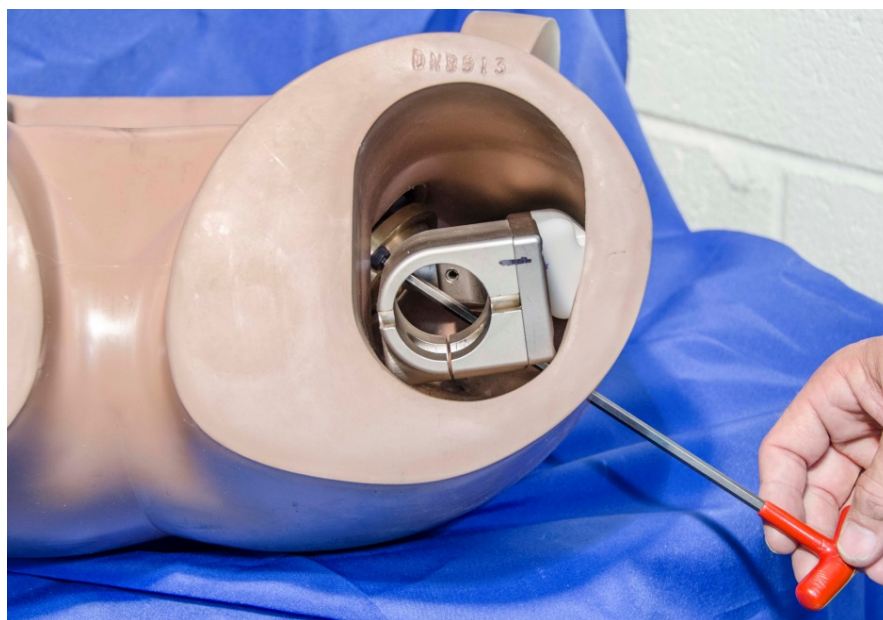
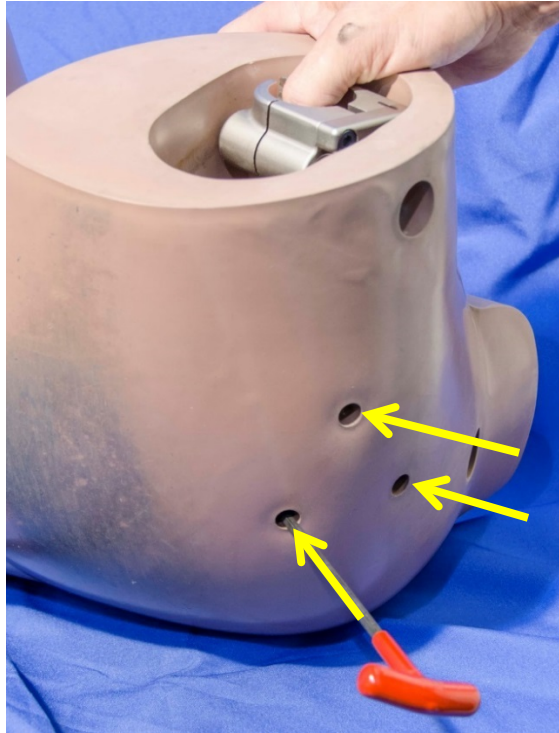

Figure 10-39. Attach femur ball joint to pelvis
Figure 10-40. Access holes for installing femur ball joints
- 10.2.2.26 Attach the femur ball joint assembly to the pelvis with three M6 x 1 x 14 SHCS. Access the screws through the external openings on the pelvis flesh (Figure 10-39 and Figure 10-40).